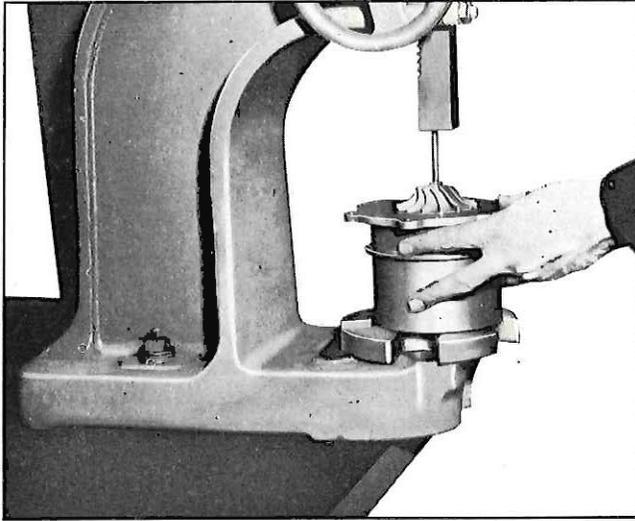

Fig. 23—Pressing Turbine Shaft from Impeller
3. Support the supercharger in a press (using parallel blocks or support ring Tool J-21004, Figure 23) with the impeller wheel upward.
5. Place a $\frac{1}{4}$ " diameter brass rod on the end of the turbine shaft (fig. 23) and press turbine shaft from impeller wheel.